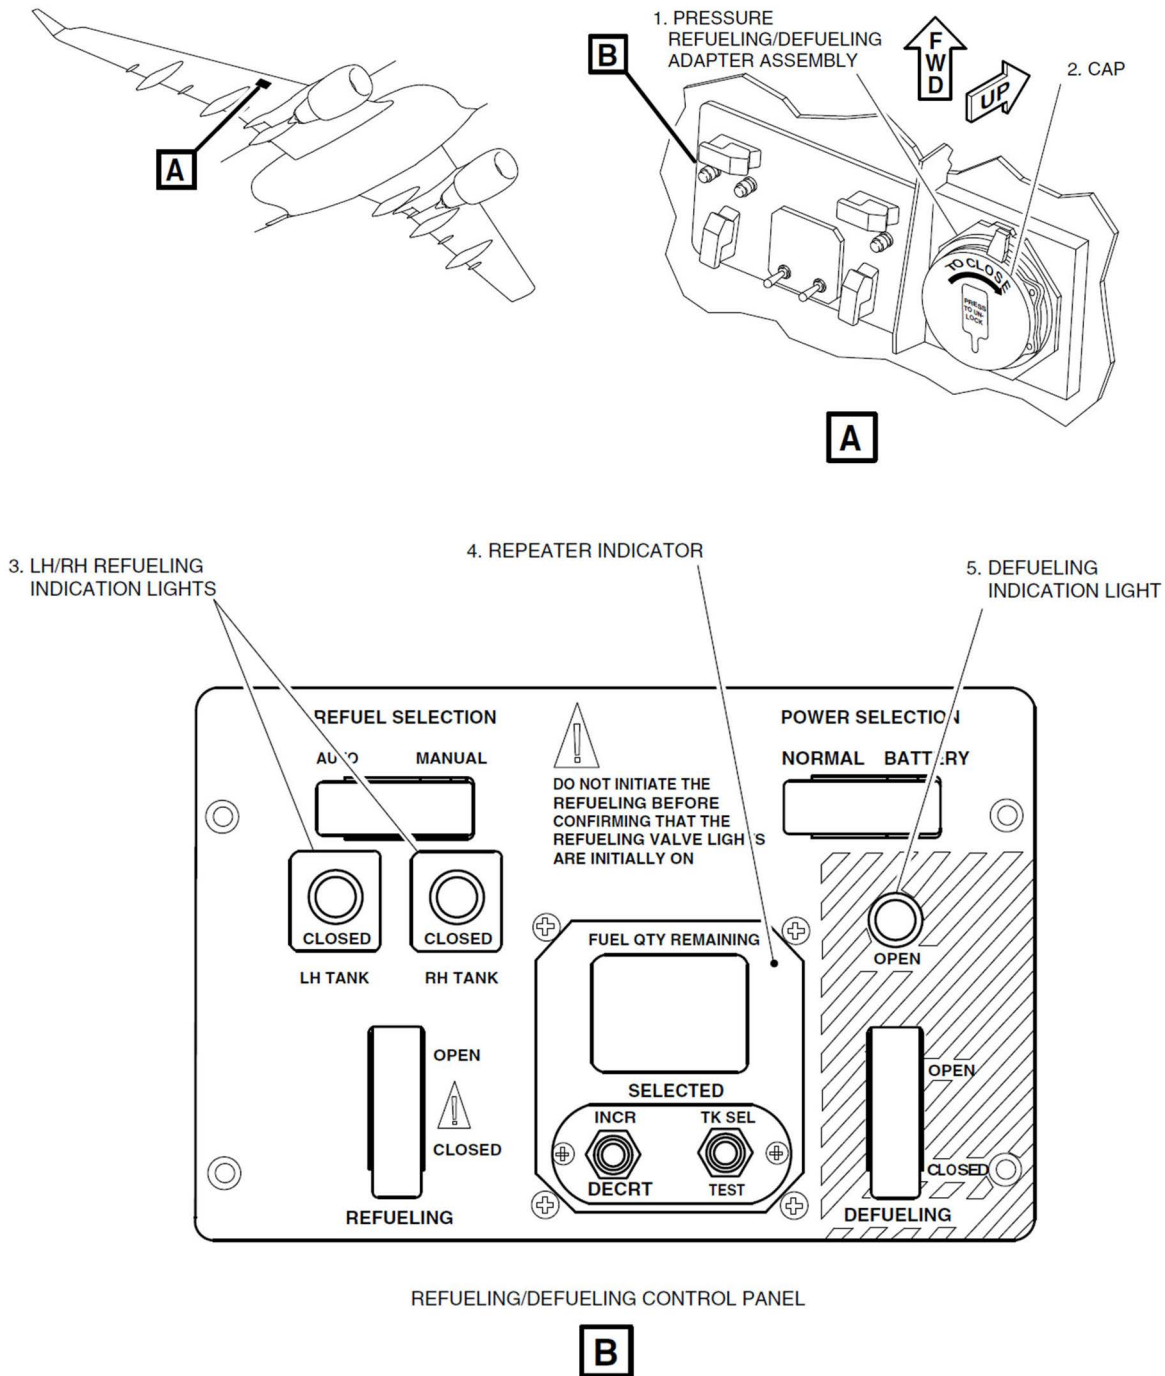

Figure 4-3: E-175 Fuel Control Panel
- A. After the aircraft is bonded, ensure that power is being supplied to the aircraft. Refer to Figure 4-3: "E-175 Fuel Control Panel" for the visual diagram of the fuel panel.
- B. Open the aircraft fuel servicing panel to reveal the refueling/defueling adapter assembly (1) and fuel control panel (B).
- D. Make sure that the LH and RH refueling indication lights (3) are off.
- E. Make sure that the defueling indication light (5) is off.
- G. Remove the fuel cap (2) from the refueling/defueling adapter assembly (1) on the aircraft and verify the refueling connections are in good condition and have no signs of cracks or contamination.
- B. After the aircraft is bonded, ensure that power is being supplied to the aircraft. Refer to Figure 4-3: "E-175 Fuel Control Panel" for the visual diagram of the fuel panel.
- C. Open the aircraft fuel servicing panel to reveal the refueling/defueling adapter assembly (1) and fuel control panel.
- E. Make sure that the LH and RH refueling indication lights (3) are off.
- F. Verify that the defueling indication light (3) is off.